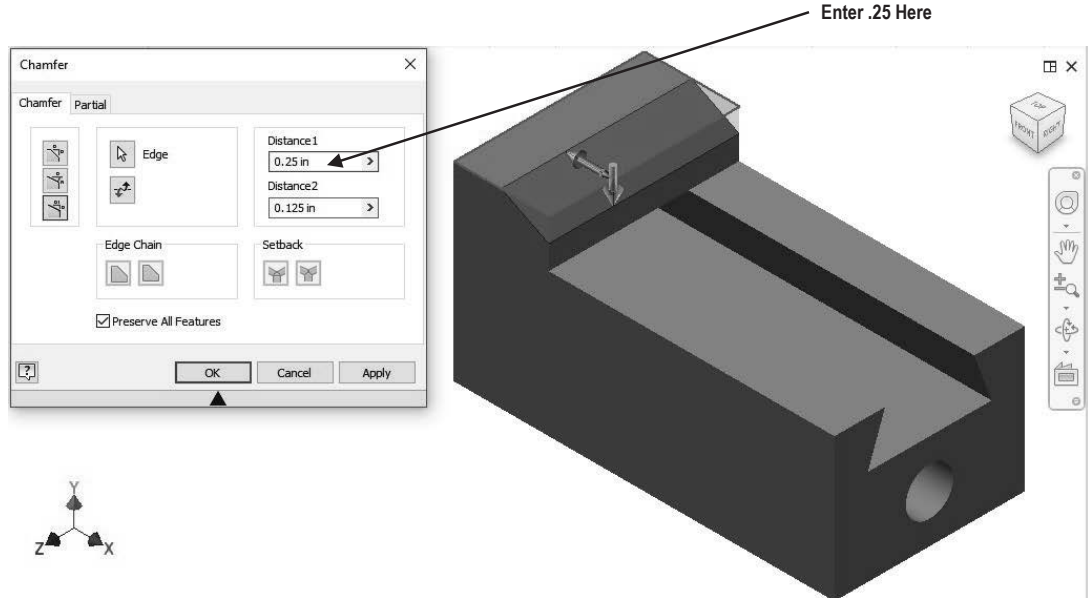

Figure 6
8. Move the cursor to Distance 1 in the dialog box and highlight the text. Enter **.25** in the dialog box. Inventor will provide a preview of the chamfer as shown in Figure 6.